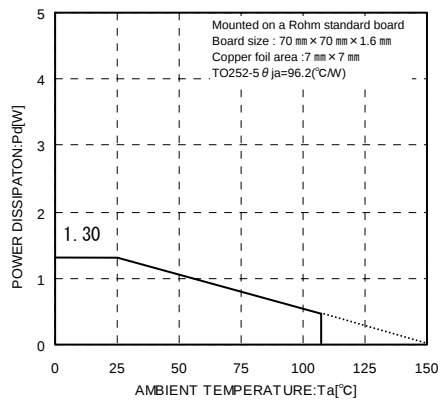
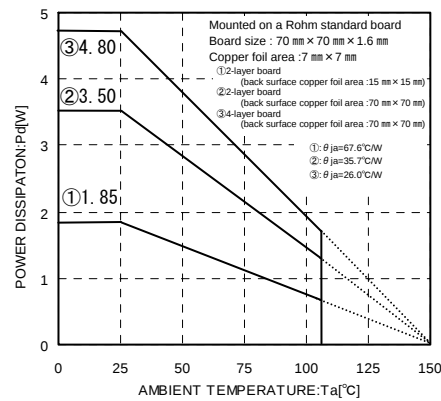

Fig.26
Fig.27(Reference data)
When using at temperatures over $T_a=25^\circ\text{C}$, please refer to the heat reducing characteristics shown in Fig.26 and Fig.27. The IC characteristics are closely related to the temperature at which the IC is used, so it is necessary to operate the IC at temperatures less than the maximum junction temperature $T_{j\text{max}}$.
Fig.26 and Fig.27 show the acceptable loss and heat reducing characteristics of the TO252-5 package. Even when the ambient temperature T_a is a normal temperature (25°C), the chip (junction) temperature T_j may be quite high so please operate the IC at temperatures less than the acceptable loss P_d .
The calculation method for power consumption $P_c(\text{W})$ is as follows : (Fig.27③)
$$\left[\begin{array}{l} \text{Fig.27③: } \theta_{ja}=26.0^\circ\text{C/W} \rightarrow -38.4\text{mW}/^\circ\text{C} \\ 25^\circ\text{C}=4.80\text{W} \rightarrow 85^\circ\text{C}=2.496\text{W} \end{array} \right]$$